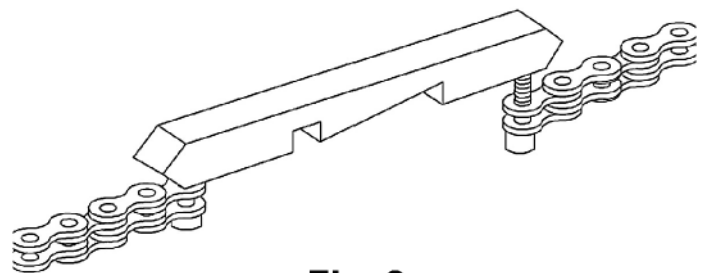

Fig. 3
For ease of installation the S600- II opener is delivered with the chain and chain index already assembled in the track. If you need to assemble it yourself connect the chain index to the chain refer (Fig.3) .Tighten Screw (C) (Fig.4b) until the chain is reasonably tight. Do not over tighten, but do not leave it too slack. Grease the chain and sprocket with a lithium type grease or equivalent. Do not use oil type lubricants.